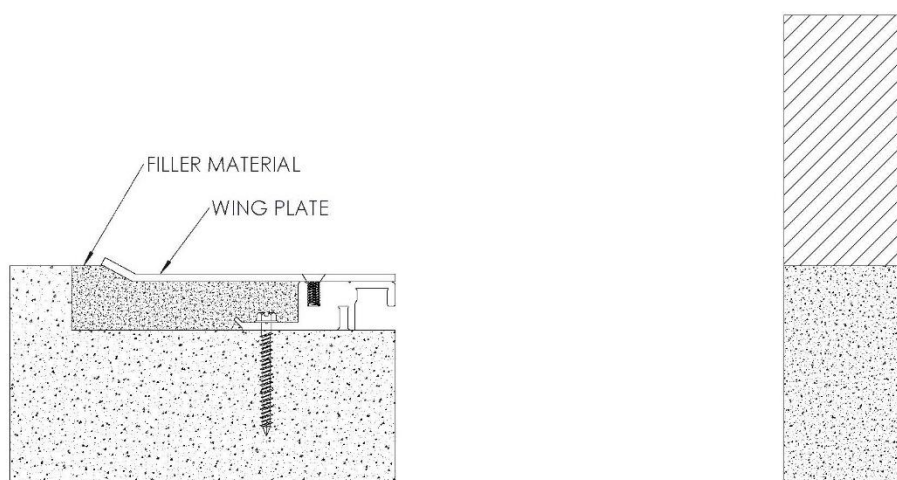

FIGURE 11
4. Protect the exposed surface of the expansion joint, grout in the blockout level with the surrounding floor. **See Figure 11**